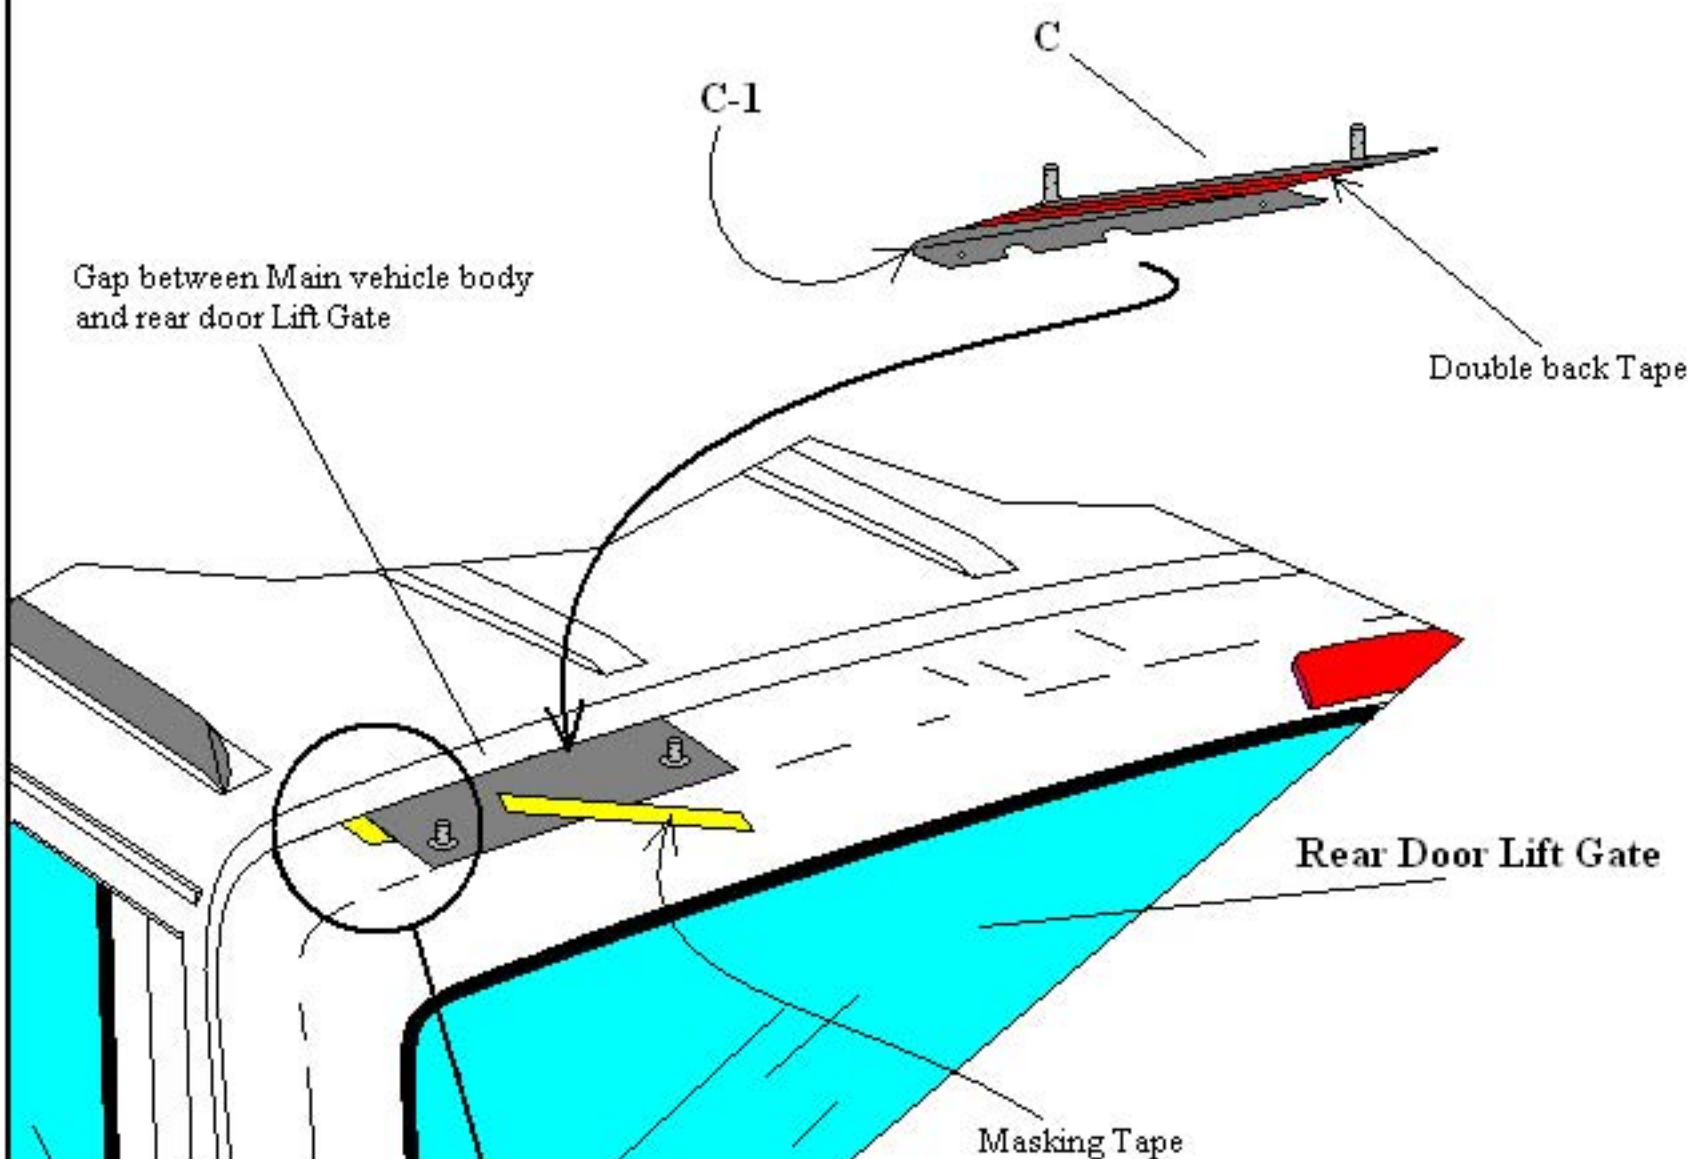
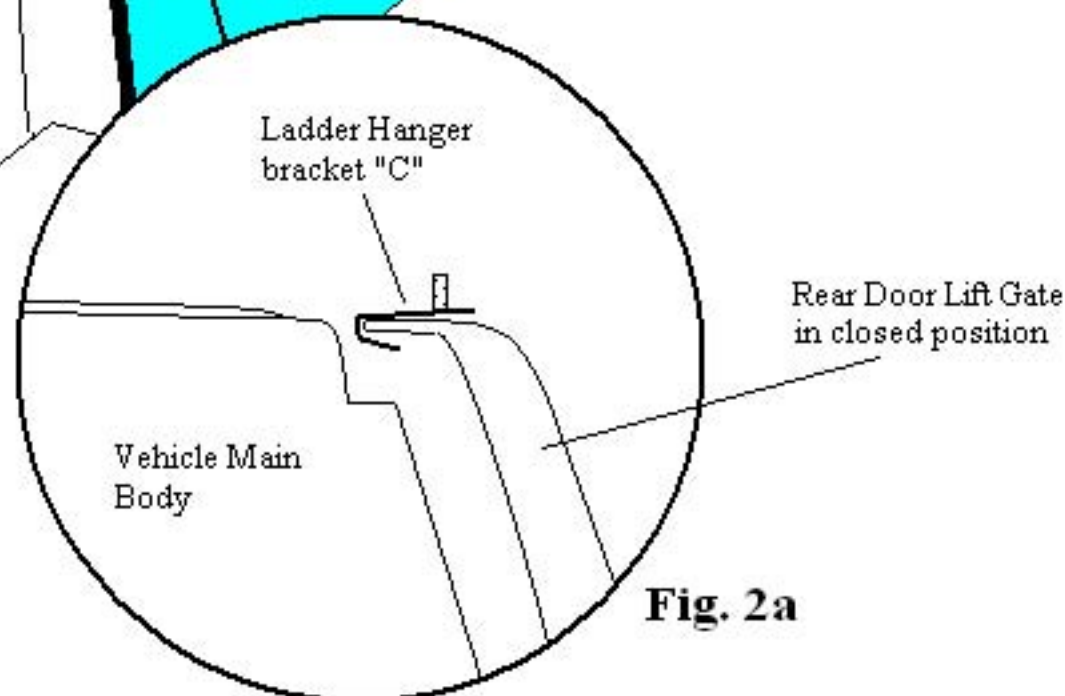

Fig. 2
Fig. 2a
- 3- Remove Ladder hanger bracket "C" supplied with your parts kit ***Do not peel off the double back protective film at this time*** carefully slide bracket "C" as shown on page 5 Fig 2 and Fig 2a between the gap of the upper rear door Lift Gate and the main vehicle body. Once bracket "C" has been slipped into the gap align the left edge of the ladder hanger "C" with the masking tape mark and pull ladder hanger bracket "C" so that the inside edge "C-1" is up against the rear Lift Gate doors edge as shown in Fig 2a page 5. Use an additional piece of masking tape to hold down bracket "C" from moving temporarily at this time.
- 5- Refer to page 5 and remove the ladder hanger bracket "C" from the door, clean the surface area where the ladder hanger bracket is to be attached with denatured alcohol. Peel off the protective double back tape film and re-fit ladder hanger bracket "C" back in place and be sure that the inner edge "C-1" is in full contact with the rear door Lift Gate's upper edge as shown in Fig 2a. Once in place press down firmly and hold for at least 30 seconds.